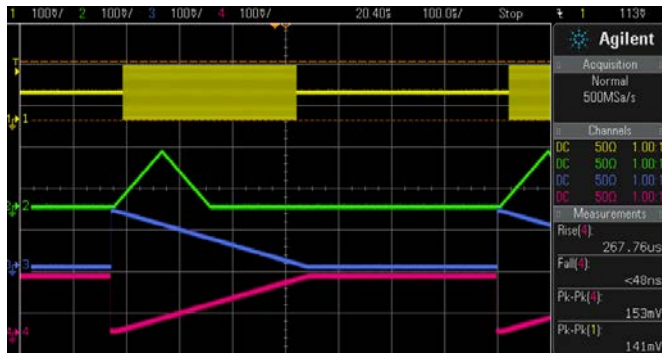

Figure 7 : Example 4 Result
- f. The outputs from J2, J1, J4 and J5 will be as shown in Figure 7